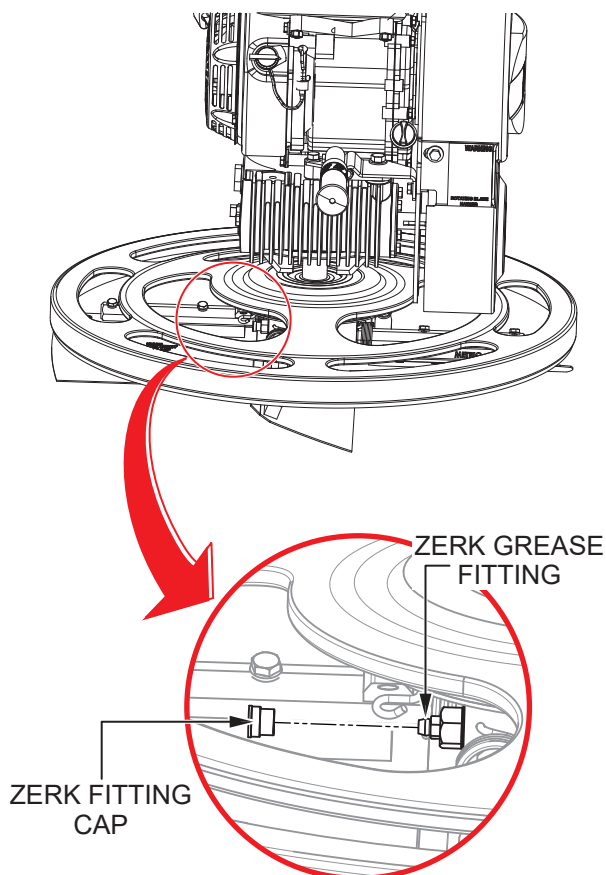

Figure 43. Spider Lubrication
1. Locate one of the Zerk grease fittings on the spider assembly (Figure 43). Remove the Zerk fitting cap and set it aside.